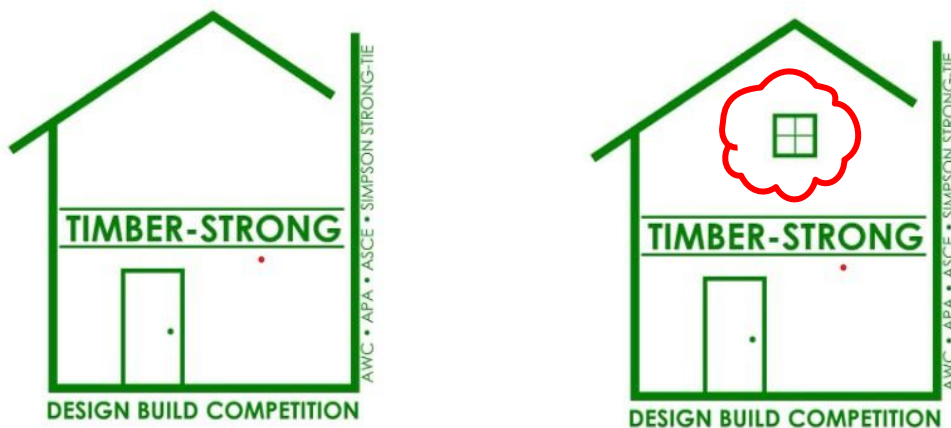

Figure 7: Example of Clouded Change
4. Newly altered plan/details/calculation must show area that will be changed with a cloud area for reference (see **Figure 7**).